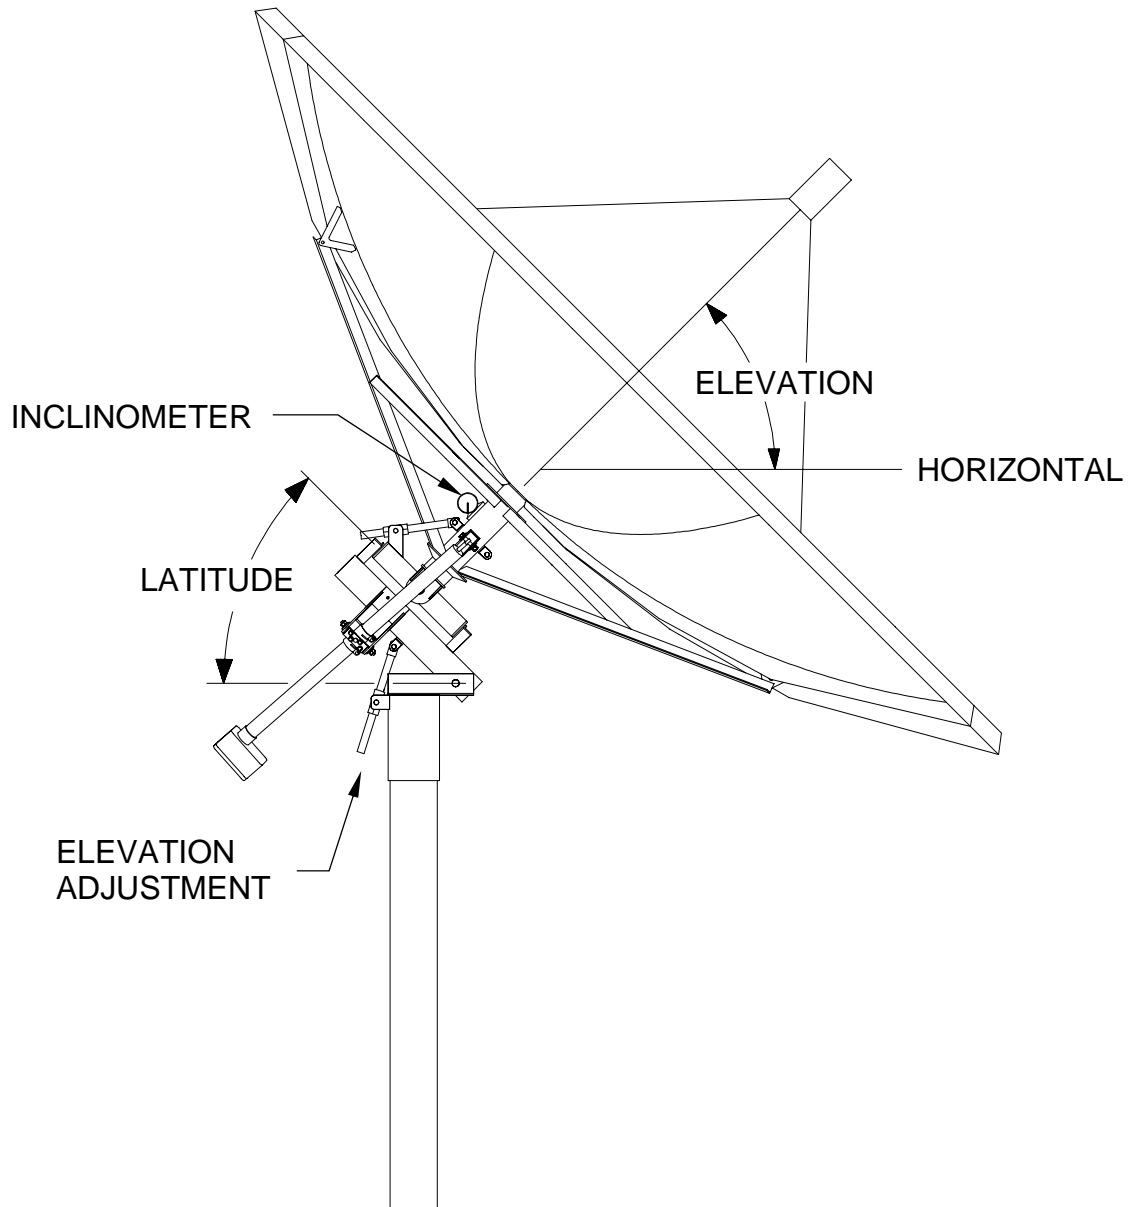

FIGURE 13
2. Set the elevation (latitude) angle by placing the inclinometer on the polar axis assembly as shown. Adjust the elevation rod until the correct elevation angle is read., as shown in figure 13. Snug the elevation axis bolt and adjustment hardware.
2. Operate the actuator until the antenna is in the correct elevation angle for a selected satellite (measured off the hub as in figure 13). Sweep the antenna in azimuth until a signal is found. Rotate the antenna in azimuth until loss of signal is observed. Rotate the antenna in the opposite direction until the signal strengthens, then weakens again. Set the azimuth midway between these two points and snug canister bolts.